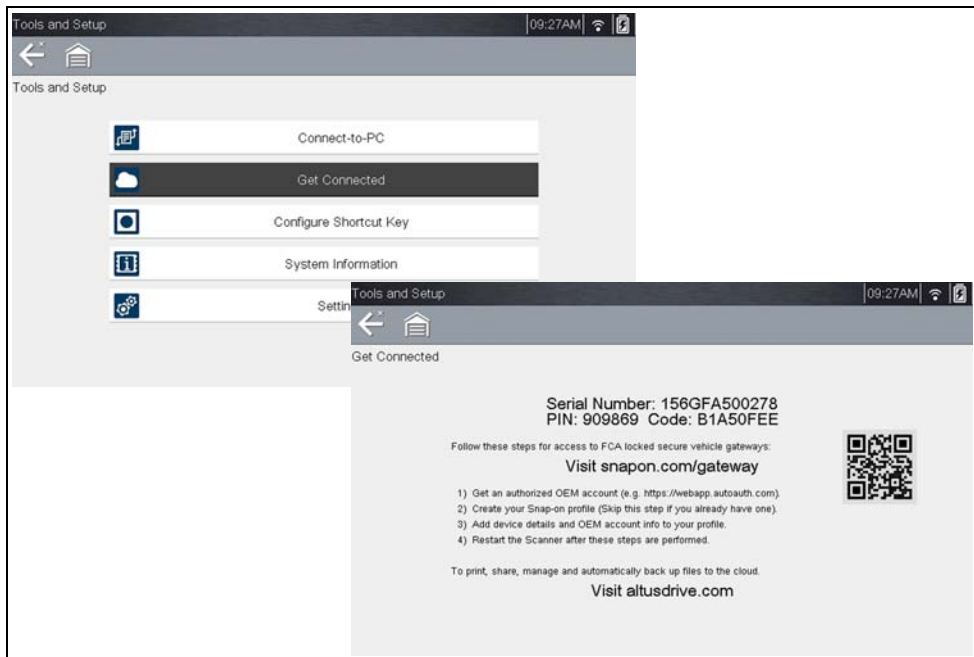

Figure 16-3
*The PIN and Code numbers will change each time you view the Setup screen (Figure 16-3 and Figure 16-1). This is normal, any displayed set of PIN and Code numbers may be used to register.*
The PIN and Code numbers will change each time you view the Setup screen (Figure 16-3 and Figure 16-2). This is normal, any displayed set of PIN and Code numbers may be used to register.
From the Home screen, selecting **Tools > ALTUS Setup** allows you view (Figure 16-3) the diagnostic tool serial number, PIN and Code needed to register.
*The PIN and Code numbers will change each time you view the Setup screens (Figure 16-3 and Figure 16-1). This is normal, any displayed set of PIN and Code numbers may be used to register.*